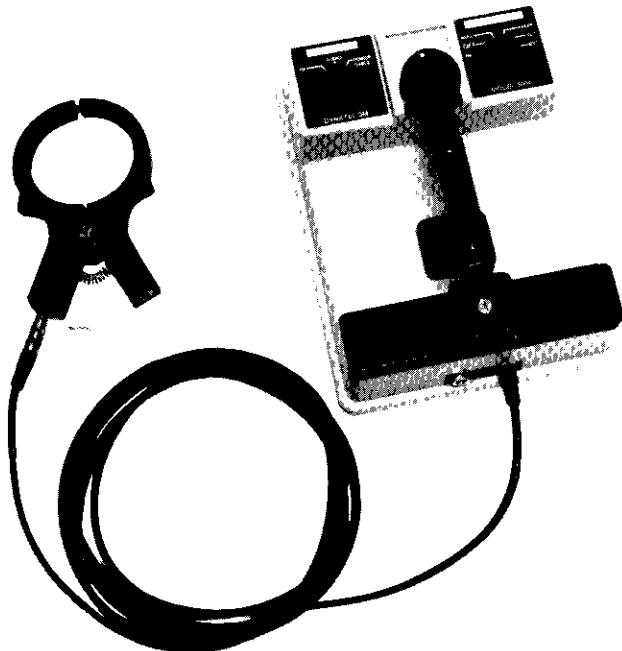

Fig. 12 — Receiver Setup for Cable Identification with the Dyna-Coupler®
- (1) At an access where cable identity is known, put tone on the sought cable with a Direct Connection or an extra Dyna-Coupler.
- (2) At an access at the far end of the cable group, connect a Dyna-Coupler (Fig. 12) to the receiver EXT Jack with the 9011 Coupler Extension Cable.
- (3) Set the RECEIVER MODE selector to EXT and adjust the meter needle to about half-scale deflection. Do not overdrive the receiver.